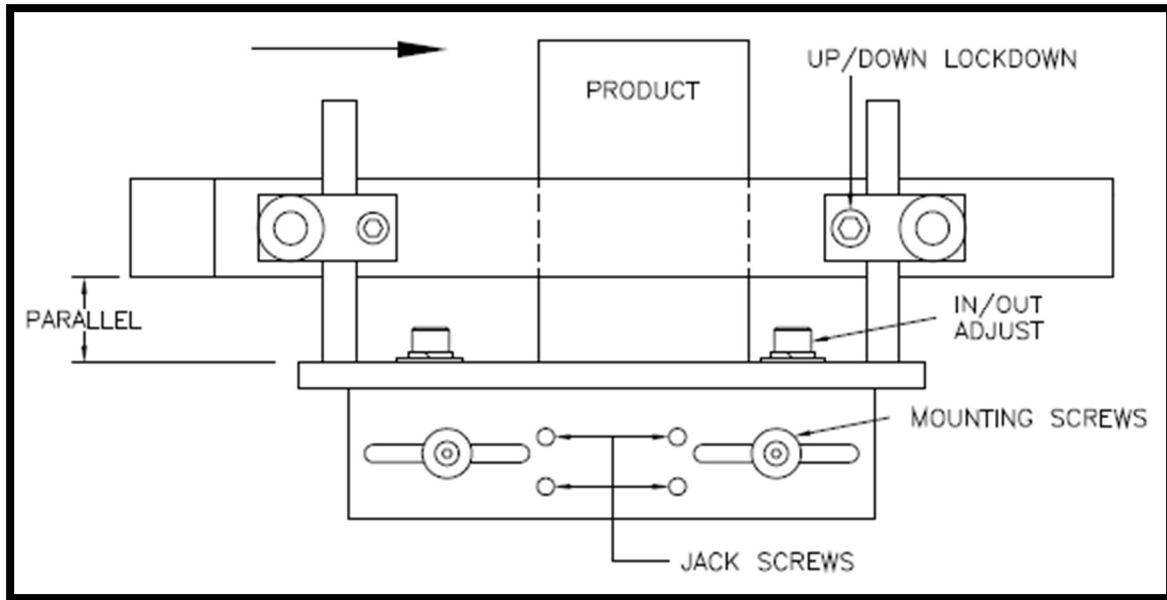

Figure 31 Pressure Bar Adjustments
4. Refer to *Figure 31* and check that the pressure bar is parallel to the product.